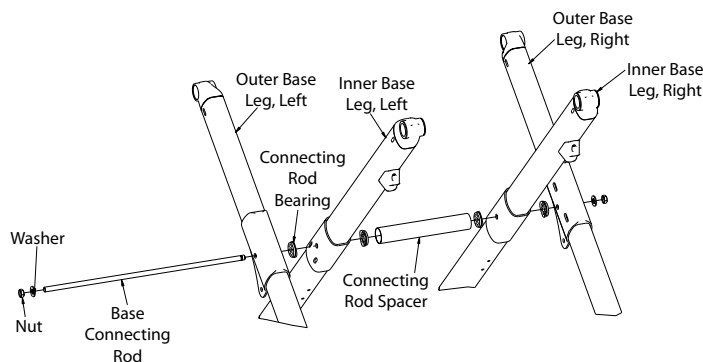

Figure 63
**Note:** Keep track of the bearings that fall out as the bolt is removed (see Figure 63).
5. Using 9/16" combination wrenches and a dead blow hammer, remove the base connecting rod and nut (see Figure 63 on page 63).
4. Using 9/16" combination wrenches and a dead blow hammer, remove the base connecting rod and nut (see Figure 63 on page 63).